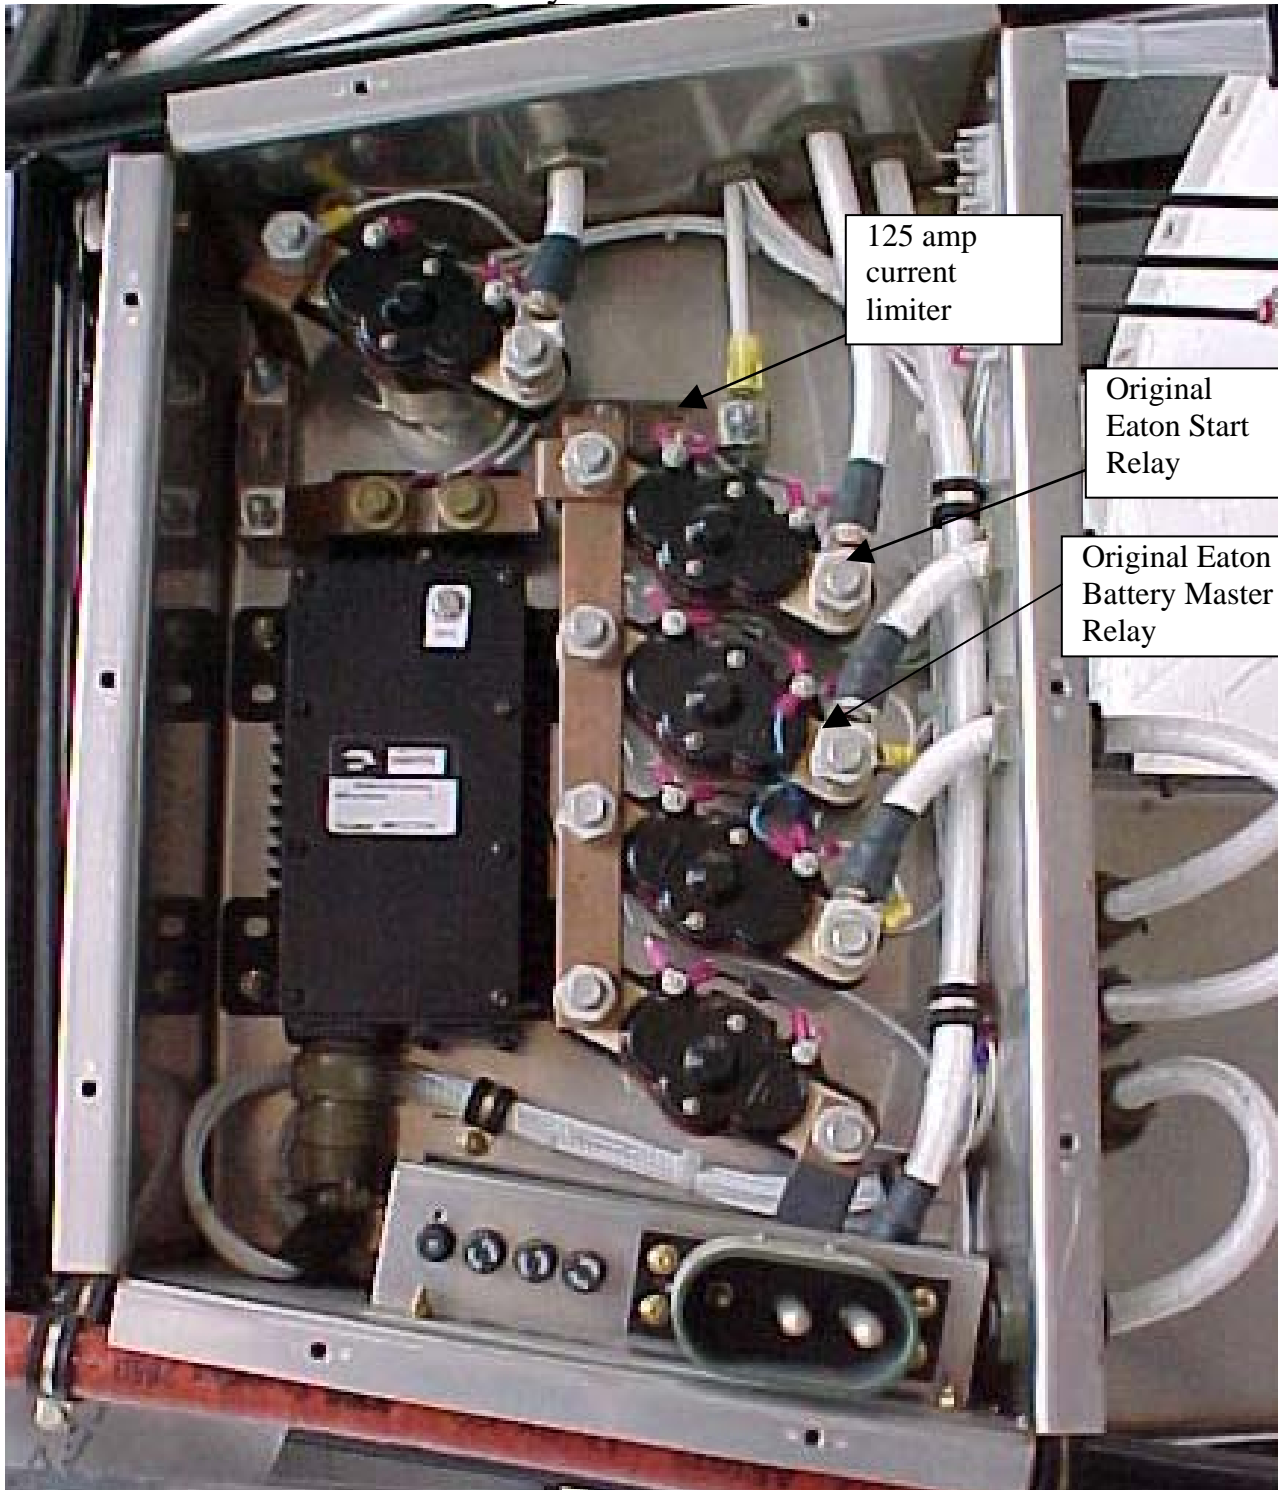

Figure 1
5. Remove the Eaton start relay and upper Eaton battery master relay (see figure 1). Remove the 125 amp current limiter, and the mount screws. Rotate the current limiter mount vertical and mark and re-drill the holes with a #10 drill and de-burr.